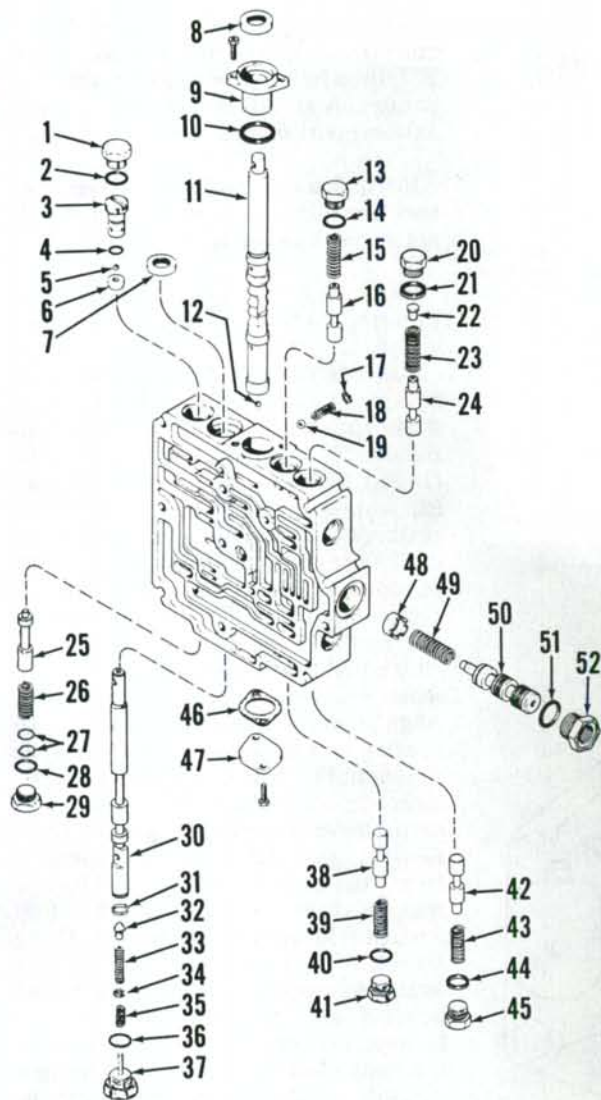

Fig. 140—Exploded view of power shift control valve showing component parts.
130. OVERHAUL. Refer to Fig. 140 for an exploded view of power shift control valve. Springs, spools and associated parts except for body, spring (33), modulator point (32), ball (12) and pin (37) are available individually. The valve
body and previously mentioned parts are not serviced separately. A seal kit which contains all necessary "O" rings, gaskets and seals is available. Pilot valve spools (16, 24, 38 and 42—Fig. 140) and springs (15, 39 and 43) are interchangeable. C-4 spool spring (23) is slightly shorter than the other three. All valves should fit freely in body bores without binding or excessive looseness. Tightening torques are as follows: